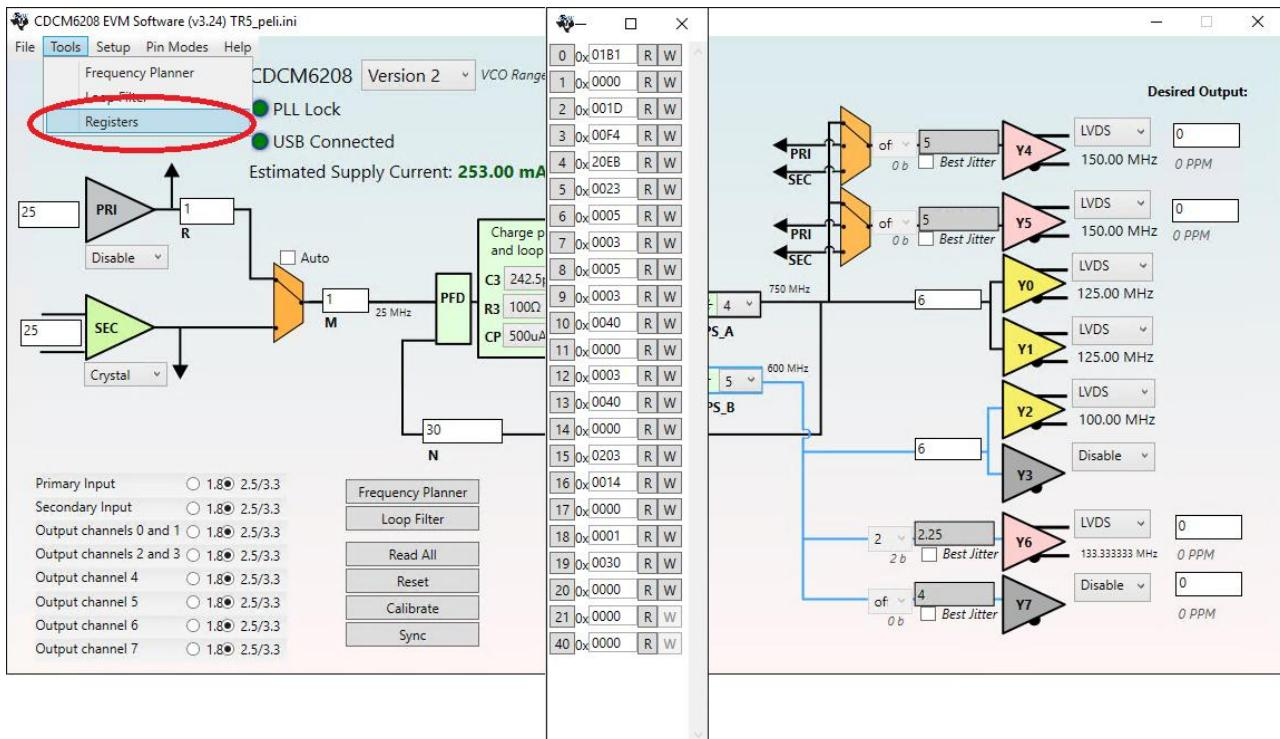

Figure 5-6 Open Register Table on CDCM6208 EVM Software
- After the setting is completed, CDCM6208 EVM Software generates a register table, which contains users setting frequency corresponding register value (See Figure 5-6).